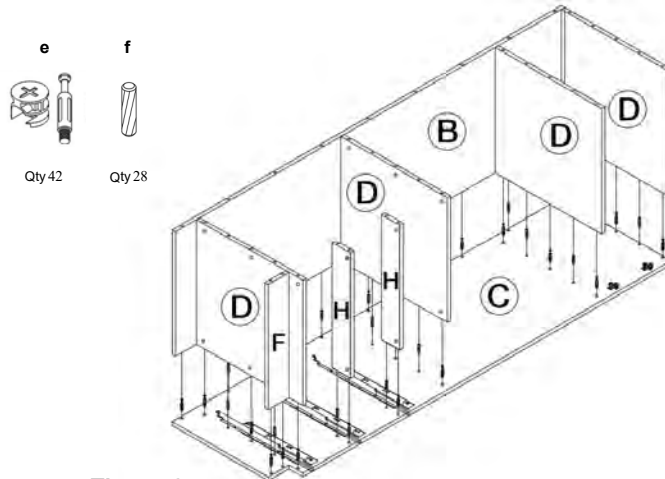

Figure 3
3. Install metal male cam locks (e) into designated holes on side panel (C), braces (H), and top/center/bottom panels (D). Use screwdriver to tighten. Install the wooden dowels (f) into designated holes. (Figure 3)
4. Install the toe kick (F) onto bottom panel (D). (Figure 3)
5. Install Top/Center/Bottom Panels (D) onto the right side panel (C). (Figure 3)